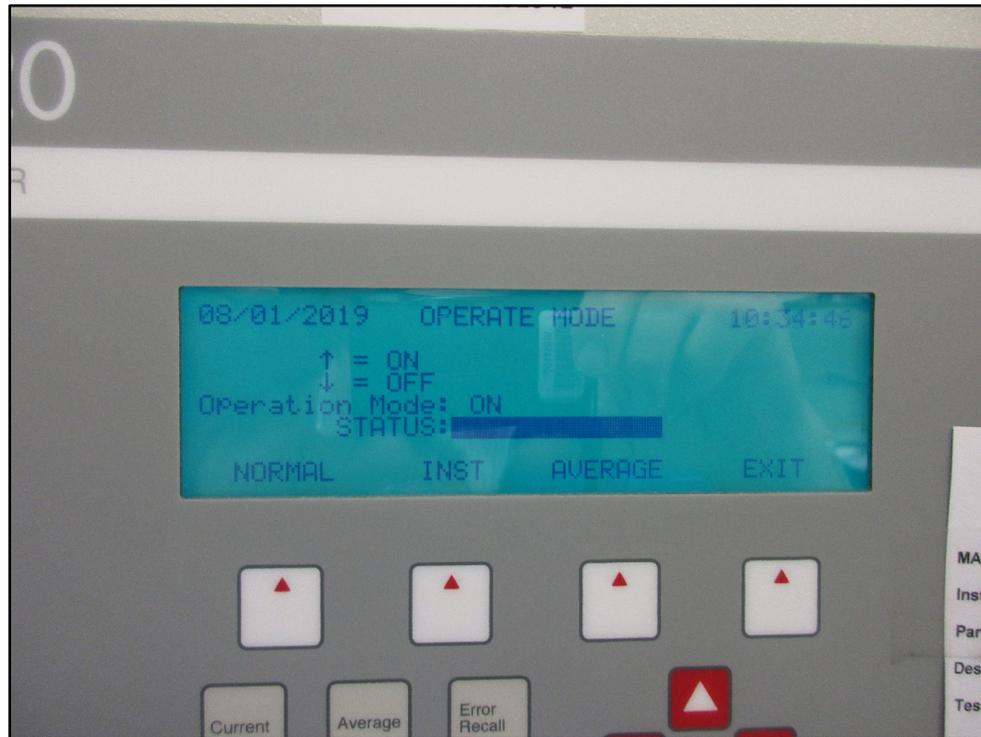

Figure AR-15. Met One BAM 1020 Operate Mode Screen
5. When the sampler is running, "OPERATE MODE" appears at the top of the display screen on the sampler (Figure AR-15).